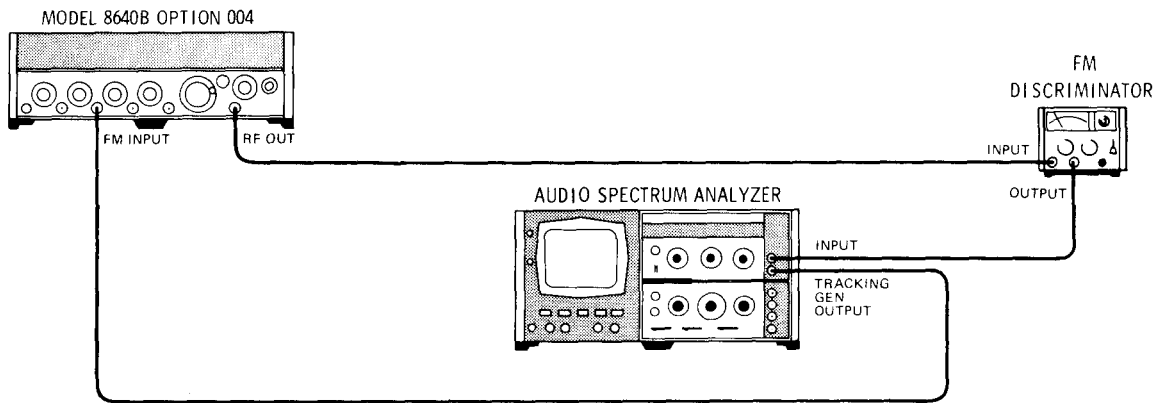

Figure 4-28. FM 3 dB Bandwidth Test Setup
1. Connect equipment as shown in Figure 4-28 after setting Signal Generator's controls as follows: